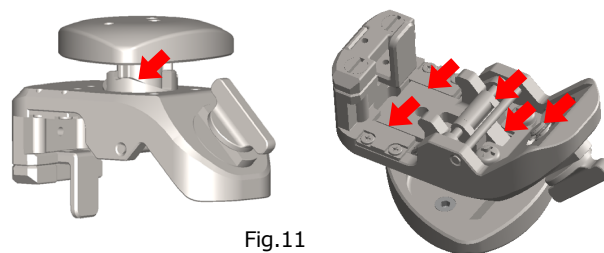

Fig.11
- (4)-3 Either soak the Retractor Slide Adjustor II in a water-based, anticorrosive lubricant or apply the lubricant to the parts indicated by the arrows in the following fig (Fig.11), and then disinfect the product. [Insufficient lubricant can cause sticking problems.] Apply about 0.06 to 0.10 ml of lubricant (equivalent to one drop) to each place.